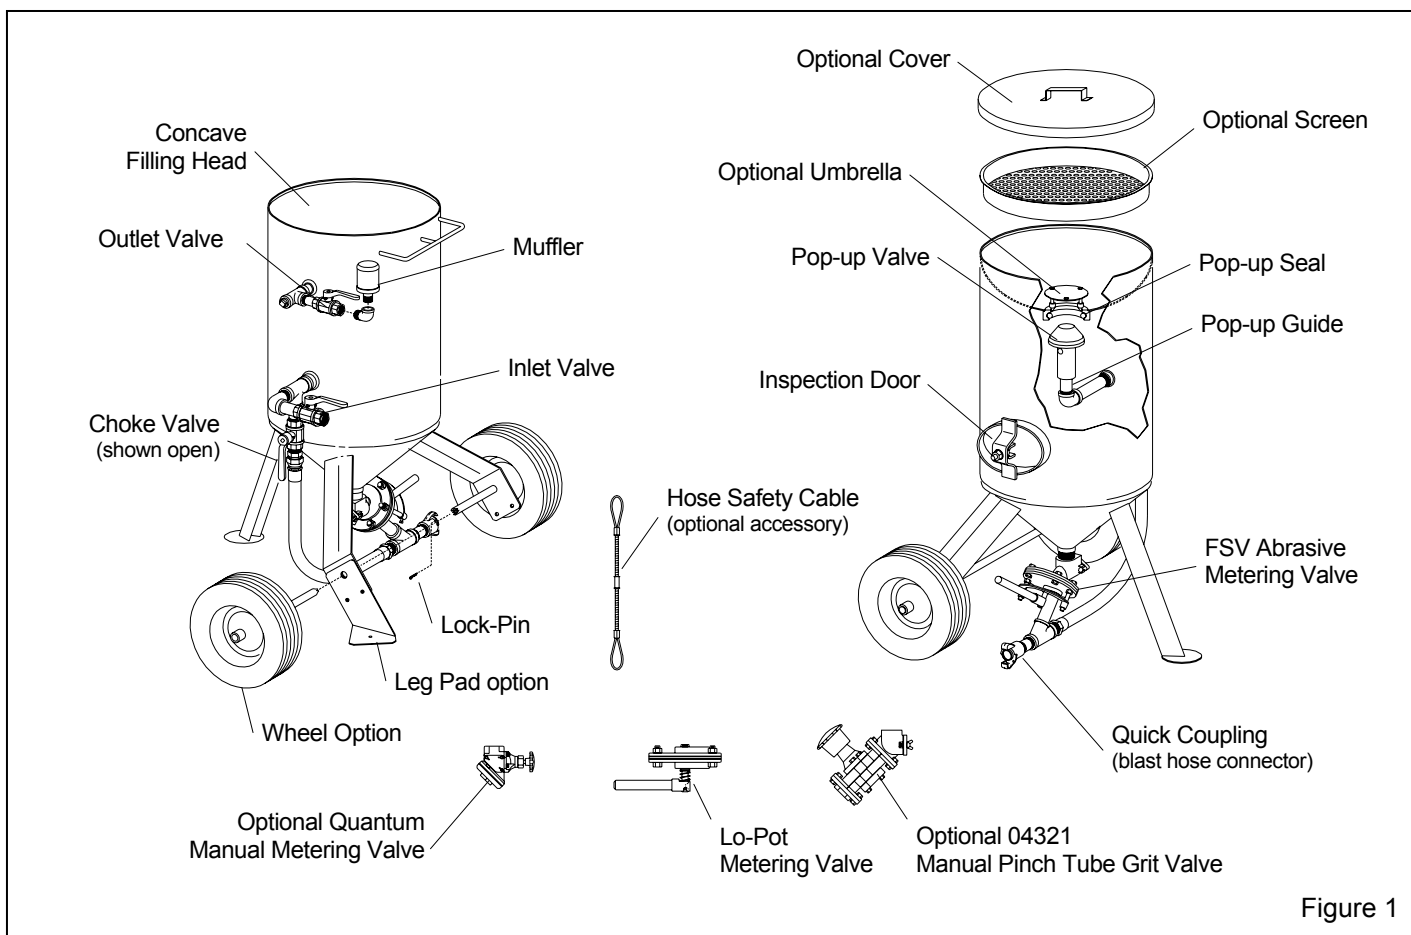

Figure 1
1.3.1 The primary components of the blast machine are shown in Figure 1.
**Clemco supplies an exhaust muffler with all blast machines of 2 cu. ft. capacity and larger. The muffler reduces exhaust noise and prevents abrasive from exhausting upward or sideways into the air. When the blast machine is depressurized, the muffler body pops up to diffuse the air and abrasive. When the machine is fully depressurized, the muffler body drops, permitting trapped abrasive to empty. For the muffler to work properly, it must be installed with the body facing up, as shown in Figure 1.**